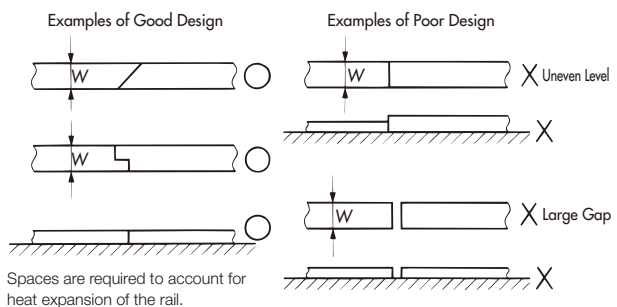

Fig.4 Rail Joints
1. Lubricate all rail connecting parts, chamfer edges, and eliminate uneven levels and gaps. (See Fig.4)